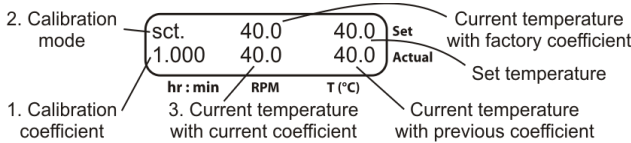

Fig. 4. Control panel in calibration mode
- 6.2. To change the calibration coefficient, hold the **TIME RUN/STOP** key pressed for more than 8 s to activate calibration mode. The calibration coefficient appears on the display (fig. 4).
- 6.3. **Restoring factory settings.** Set 1.000 value using the **▲** and **▼ T, °C** keys as shown on fig. 4/1 to restore the factory settings. Press the **RPM RUN/STOP** key once to save the changes and exit the calibration mode.
- 6.4.5. Hold the **TIME RUN/STOP** key pressed for more than 8 s to activate calibration mode. The following parameters will be shown on the display (fig. 4).